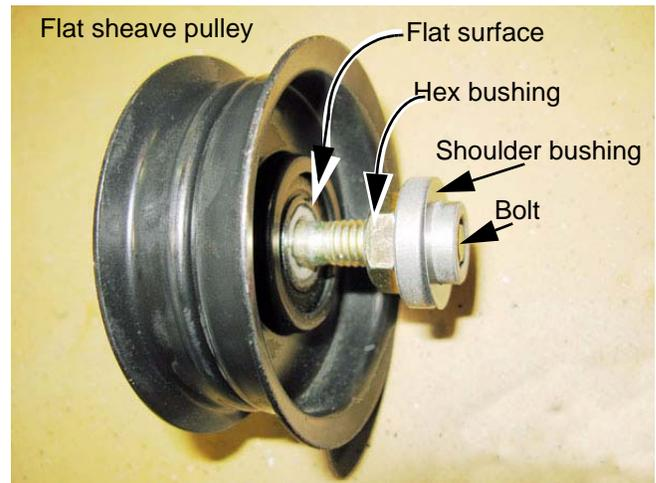

Figure 5.42
- When installed, the spacers fit against the flat side of the flat sheave idler pulley. See Figure 5.42.